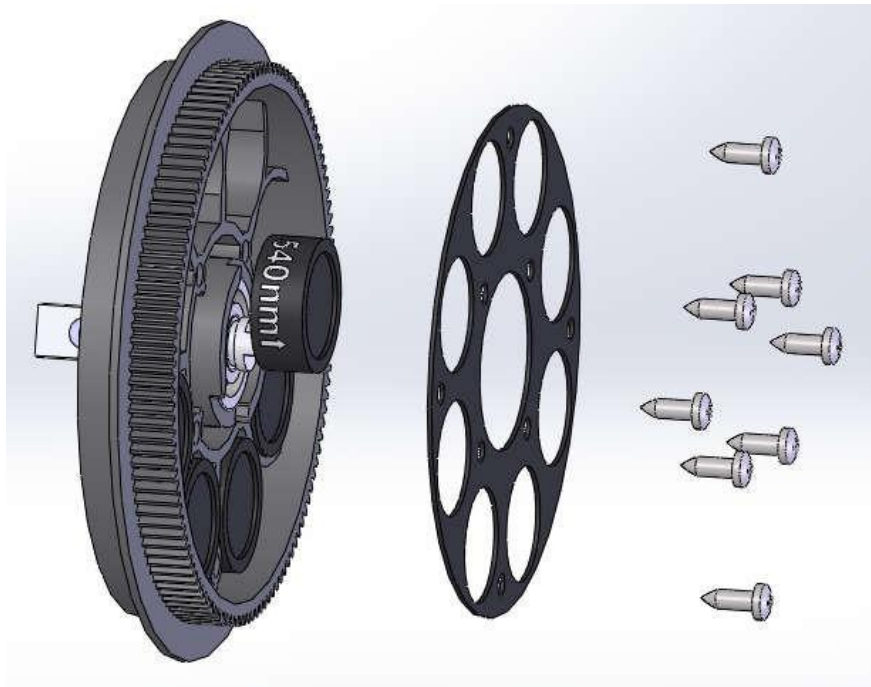

fig 58
- b. Take off the fixing plate on wheel and put the optical filters onto the wheel and fix filter by fixing plate. Arrows on filters should be same as light incident direction (Fig 58).